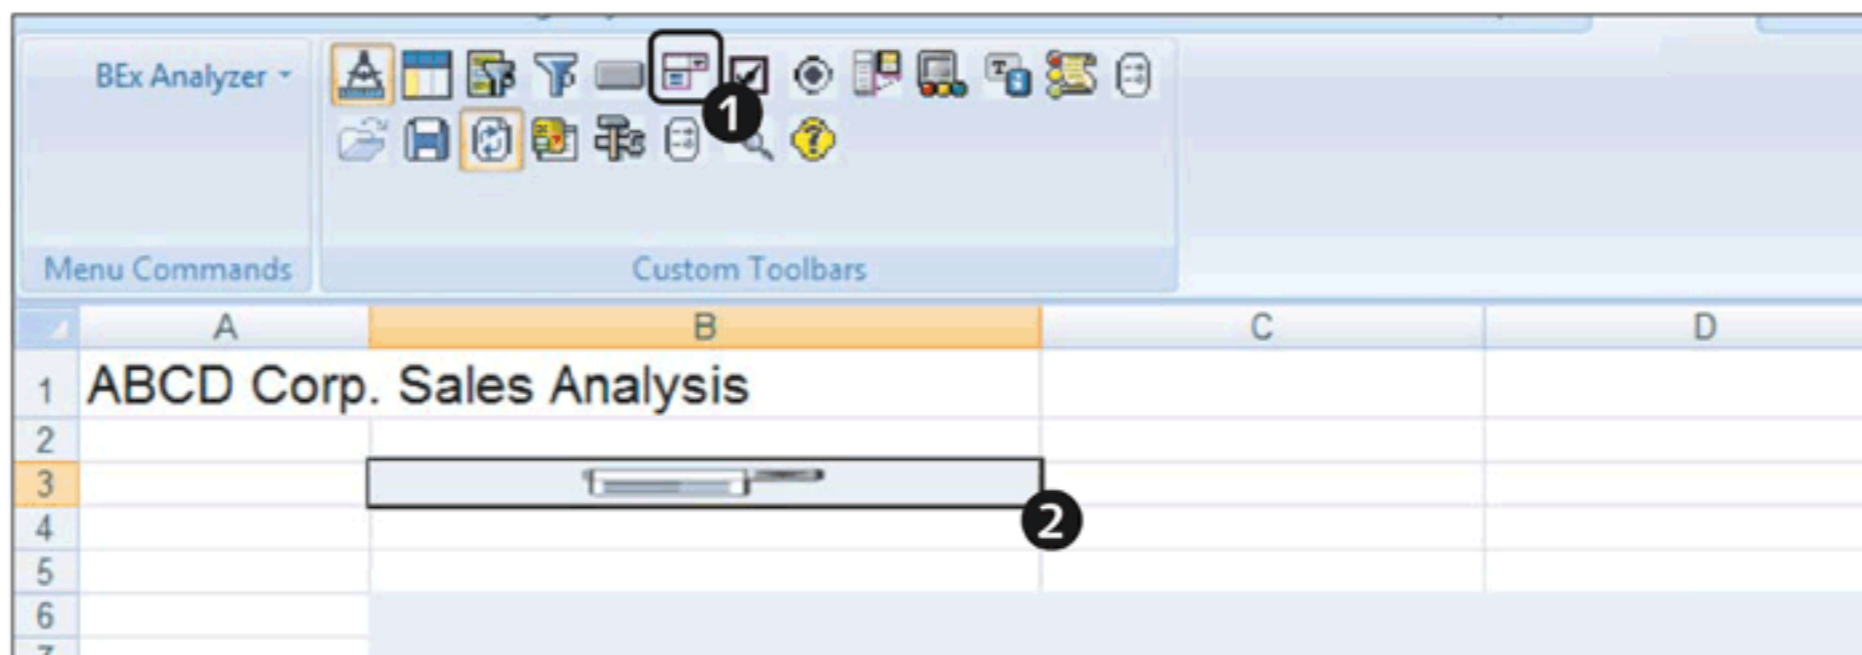

Figure 10.32 Insert Dropdown Box Design Item
Select the cell where you want to add the dropdown box in the workbook, and then click on the dropdown button in the DESIGN toolbar (❶ of Figure 10.32). The dropdown box design item is added to the workbook (❷).